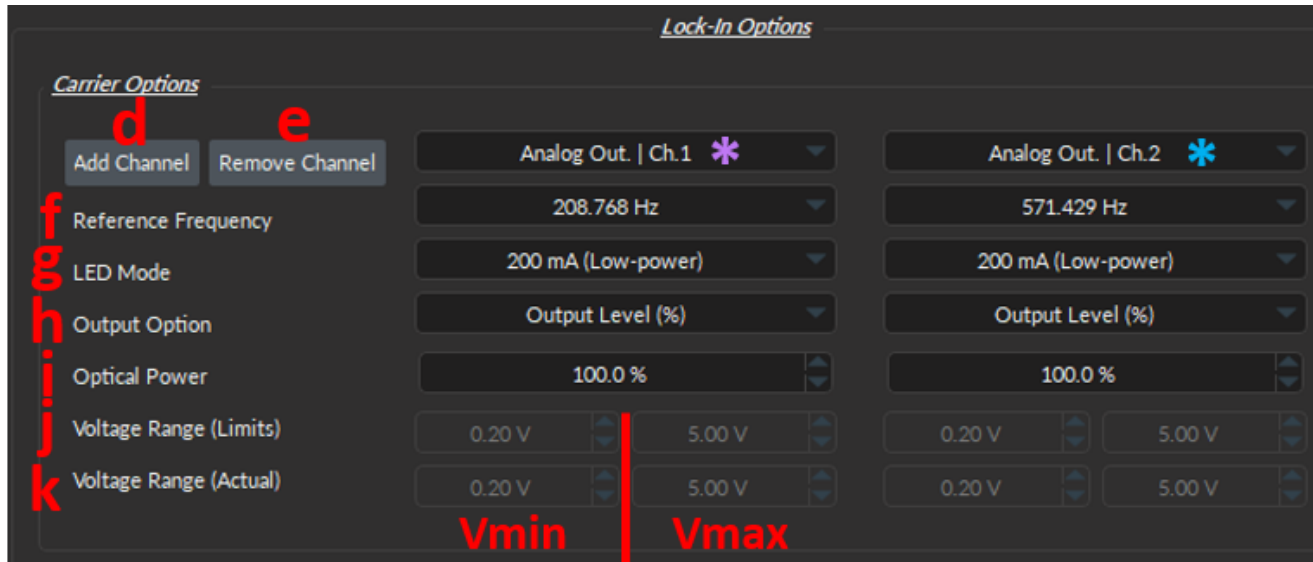
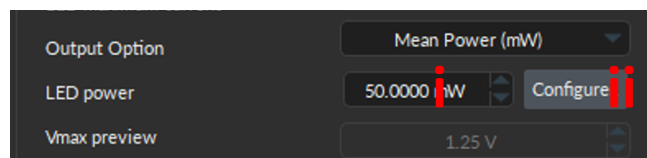
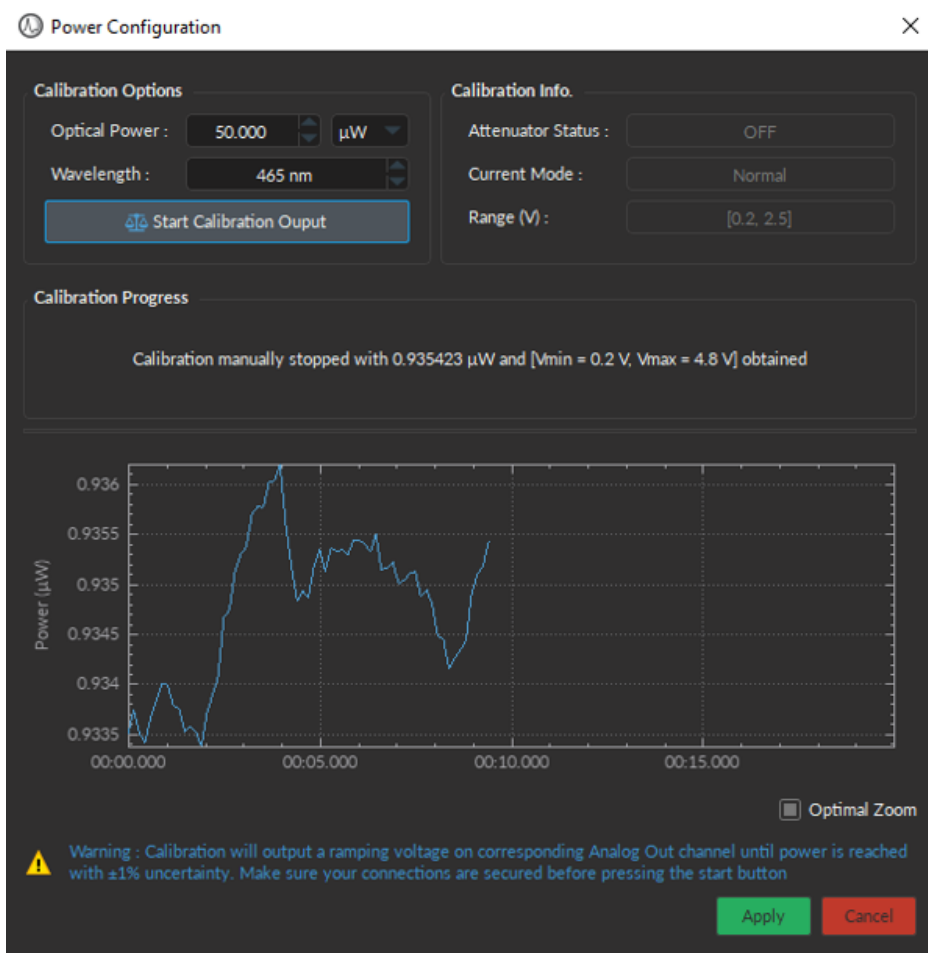

Figure 11.81: Lock-In Settings, Carrier Options
Figure 11.83: Output Options, Mean Power
Figure 11.85: Output Options, Power Calibration
- d) The **Add Channel** (Fig. 11.81, d) creates a new **Analog Output** channel column that will be used to drive the LED excitation required for the *LockIn* preset configuration. At least one channel must be added in the **Lock-In Options**.
- e) The **Remove Channel** (Fig. 11.81, e) deletes the most recently added **Analog Output** channel (right-most column) from the **Lock-In Options**.
- f) The **Reference Frequency** (Fig. 11.81, f) specifies which of eight different preset frequencies will be used as the oscillating **Analog Output** signal to drive the LED excitation. These **Reference Frequencies** have been carefully chosen to prevent cross-talk between multiple LED excitations related to the same **Analog Input** channel, and common noise sources (e.g. ambient light).
- g) **LED mode** (Fig. 11.81, g) is the largest current that the LED can handle. This value should be set either to the iIFMC-G3 mode (required for G3 Photometry mini-cubes), the **200mA (Low Power)** mode (recommended for G1 & G2 mini-cubes) or, based on the intrinsic maximum current of the LED in use (500 mA or 1000 mA, depending on the type of LED).
h) The **Output Option** (Fig. 11.81, h) selects the unit used to set the **LED Power**. The following options are available:
- **Power (uW/mW)** - directly uses the target power (in microwatts). **Only available when the PRONTO-Si power meter is connected to the computer**. To ensure an accurate target value, individually **calibrate** the fiber for each excitation wavelength of light every time this target is changed using the button in Fig. 11.83, ii. This opens a **Power Configuration** window in Fig. 11.85, where both the **target Power** and the correct **Wavelength** of the LED must be specified before calibration.
i) **Optical power** (Fig. 11.81, i) converts either the specified percentage (**Output Level (%)**) or directly the target value in microwatts (**Mean Power (uW/mW)**, Fig. 11.83, i) into the output voltage that will be sent to the **LED Driver**, displayed in **Voltage Range (Actual)** (Fig. 11.81, j). **If you are using GCaMP and its isosbestic, we recommend that the isosbestic be about half the power of the GCaMP demodulated trace to reduce the risk of photobleaching.**
- **Configure** button (Fig. 11.83, ii) - opens the **Calibration** window (Fig. 11.85) where the target **Power** (in microwatts) and **Wavelength** of the excitation LED is specified, and the **Start Calibrating Output** button is located. The graph in Fig. 11.85 shows a successful calibration, where there is an initial rise in power, followed by an oscillation until the signal converges (flattens) to the target value.
- j) **Voltage Range (Limits)** (Fig. 11.81, j)- automatically displays the maximum voltage based on the **LED Mode** (maximum current) and the **Optical Power** selected above (Fig. 11.81, i). **Vmax** (right column value) can be changed if the **Custom** LED maximum current mode is selected. The **Vmin** should never be below 0.2 V, nor the **Vmax** above 5 V.
- k) **Voltage Range (Actual)** (Fig. 11.81, k) - the default value is set to 0.2 V but can be changed if the **Custom** LED maximum current mode is selected. The **Vmin** should never be below 0.1 V.